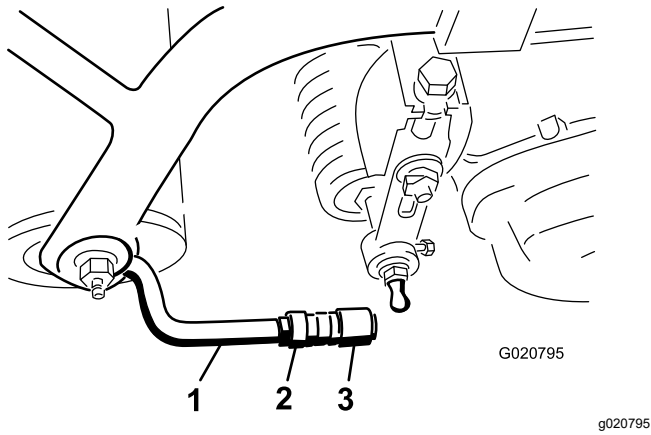

Figure 8
- Align the sockets in the ball joints so the open side of the socket is centered toward the ball stud, and tighten the jam nuts to secure the sockets in position (Figure 8).